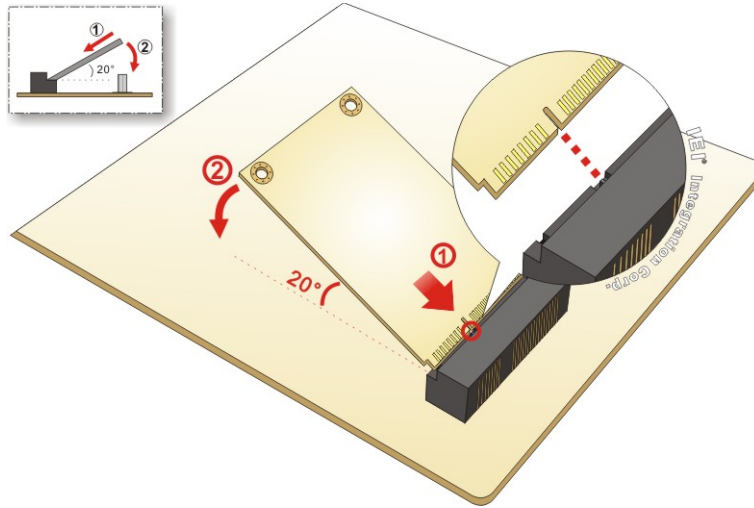

Figure 4-3: Insert the PCIe Mini Card into the Socket at an Angle
Step 3: **Insert into the socket at an angle.** Line up the notch on the card with the notch on the connector. Slide the PCIe Mini card into the socket at an angle of about 20° (**Figure 4-3**).